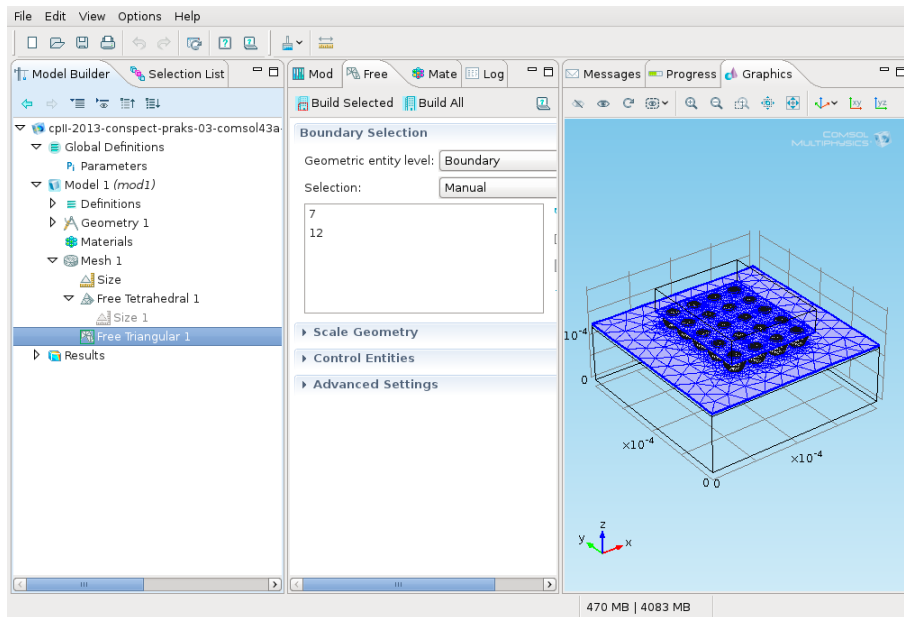

Figure 17: Adding triangular mesh branch.
**Remark:** *Free Triangular 1* is inserted after the *Free Tetrahedral 1* (Fig. 17). *COMSOL Multiphysics* always inserts the new branches after the current branch. The current branch is marked by the box around the icon in front of the branch name. The inserted branch becomes instantly the new current branch.